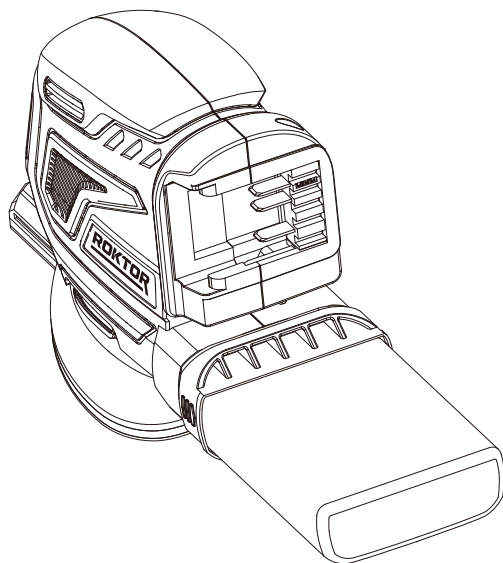

Figure 2
2. USING THE DUST BAG (SEE FIG. 2)